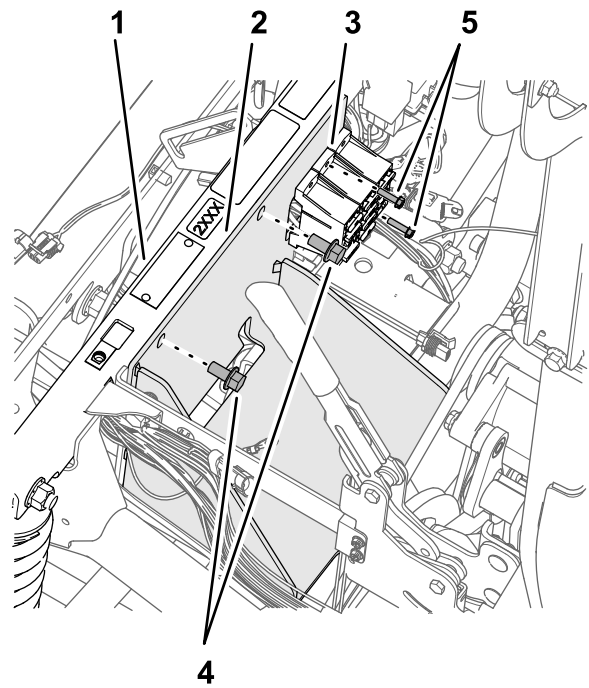

Figure 176
2. Assemble the battery bracket to the shock-support tube (Figure 176) with the 2 flange-head bolt (3/8 x 3/4 inch) that you retained in step 4 of Removing the Battery \(300 A\) and Battery Bracket (page 79).
4. Secure the fuse blocks to the battery bracket (Figure 176) with the bolt (10-24 x 3/4 inch) and nuts (10-24) that you removed in step 3 of Removing the Battery \(300 A\) and Battery Bracket (page 79).